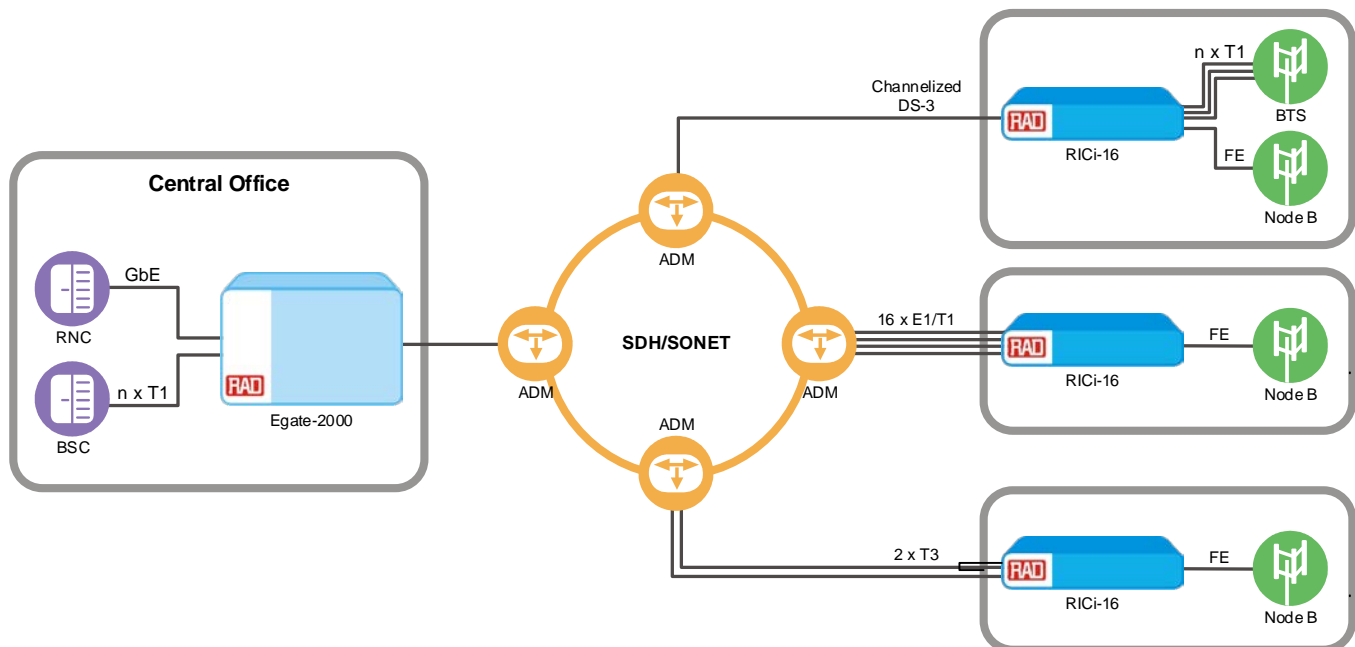

Figure 1. Ethernet Cellular Backhauling over PDH/Sonet/SDH
- IP DSLAM, cellular IP, and WiMAX base station backhauling (see Figure 1)